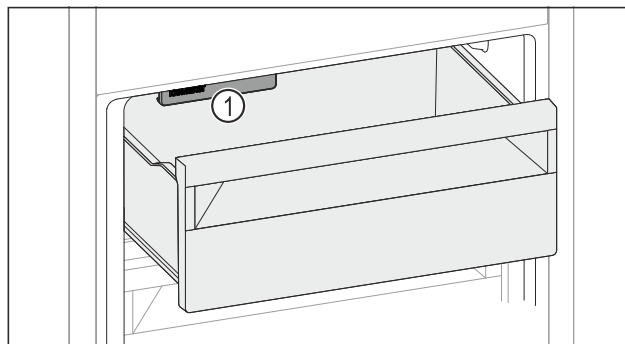

Fig. 140
- ▶ Pay attention to the IceMaker Fig. 140 (1).